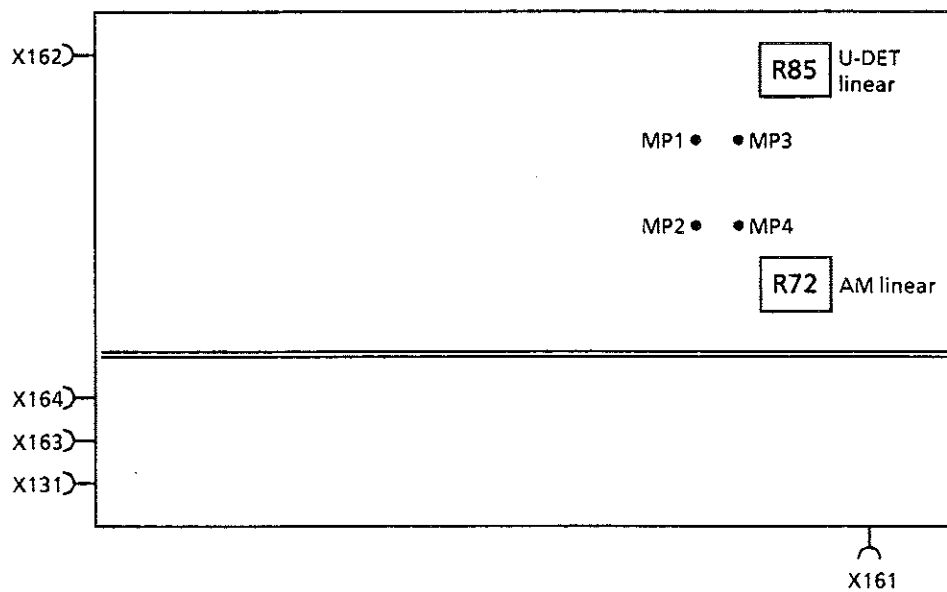

Fig. 5-4 Trimming and adjusting points
5.2.1 Adjustment of Detector Linearity (See fig. 5-4)